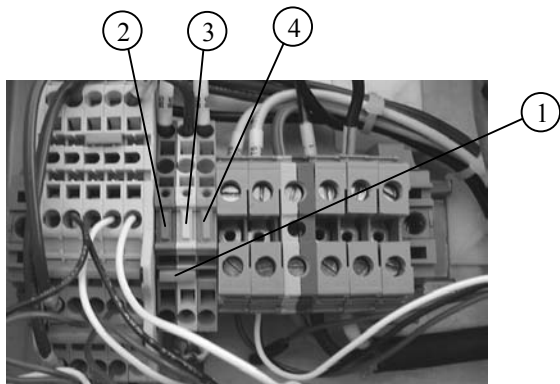

Figure 14
For forward belt movement, install the orange jumper (Figure 14, item 1) between the blue terminal (Figure 14, item 2) and white terminal (Figure 14, item 3), the left two terminals. For reverse belt movement, install the orange jumper between the orange terminal (Figure 14, item 4) and the white terminal (Figure 14, item 3), the right two terminals. (This jumper is removed when direction is controlled from the remote machine interface terminals.)